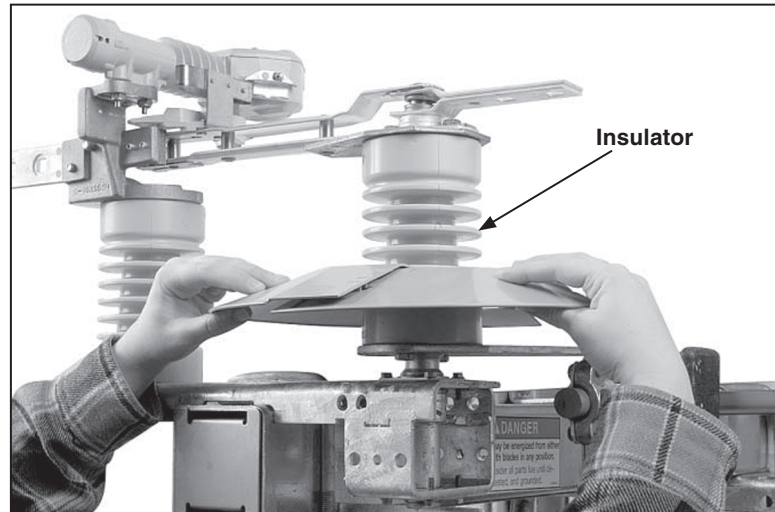
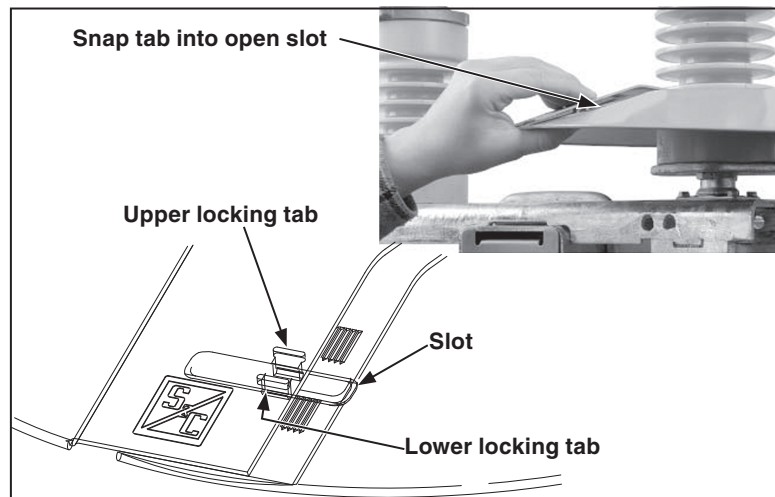
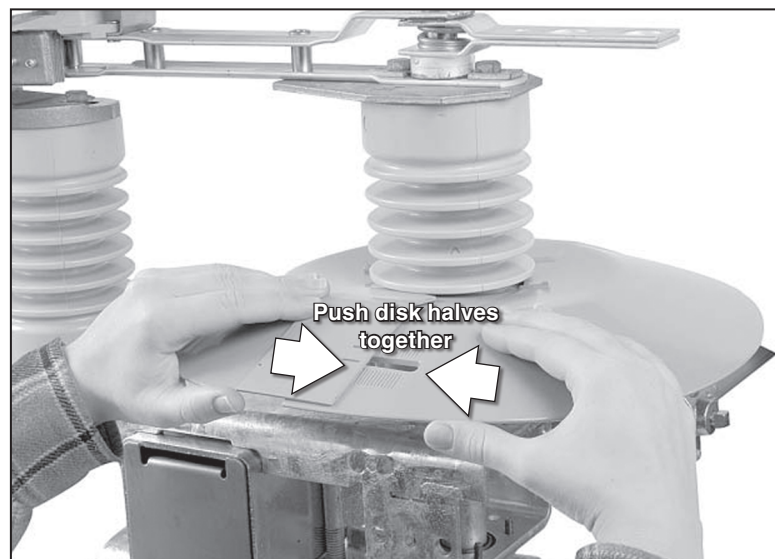

Figure 10. Fit the disk halves around the insulator.
Figure 11. Snap lower tab into open slot.
Figure 12. Push disk halves together. Snap upper tab into place. Disk halves should fit as tight against the insulator as possible.
- a. To assemble the disks, fit the disk around the insulator on the blade-end of the switch. See Figure 10. Then, insert the locking tabs of one-half of the disk into the open slot on the other half to create a secure overlapping fit. Repeat the procedure on the opposite side of the disk. When the halves are correctly assembled, the S&C logo will be on top of the disk on both sides. See Figure 11.
- c. Push the two halves of the disk together in towards the insulator so that it fits the insulator as close as possible. See Figure 12. Snap the upper locking tab firmly into place. Both tabs should protrude through the open slot as shown in Figure 11.